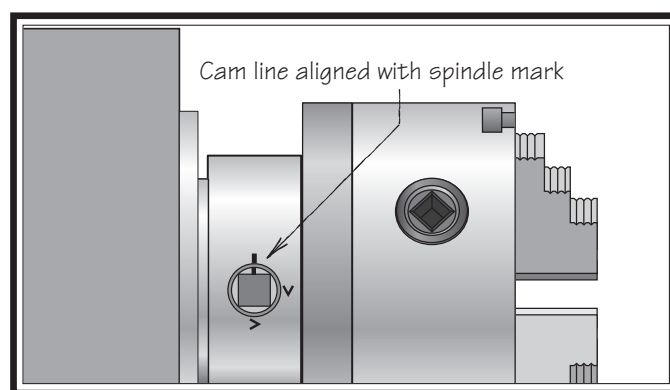

Figure 35. Camlock is fully loosened when the cam line is aligned with the spindle mark.
3. Loosen the camlocks by turning the key counterclockwise until each of the cam lines are aligned with its corresponding spindle mark (see **Figure 35**).